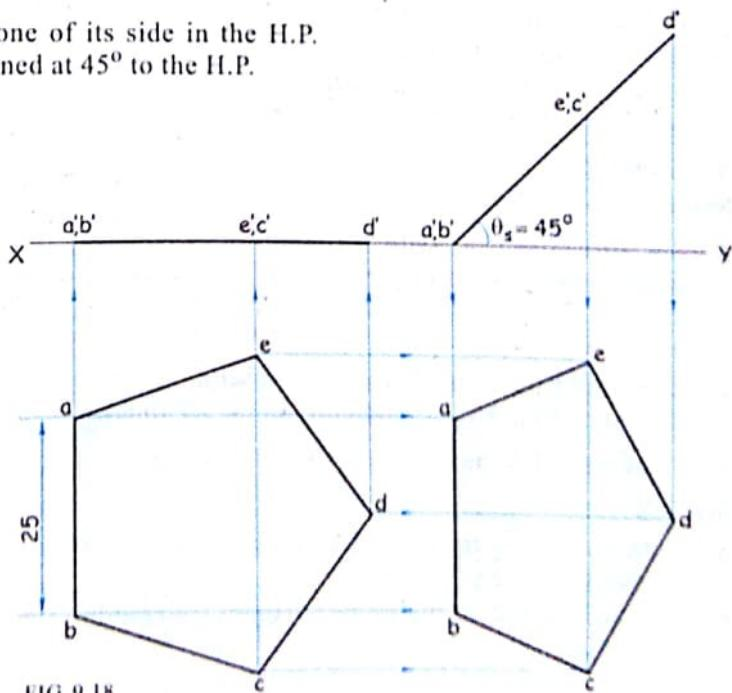

FIG. 9.18
**Solution :** Refer figure 9.18.